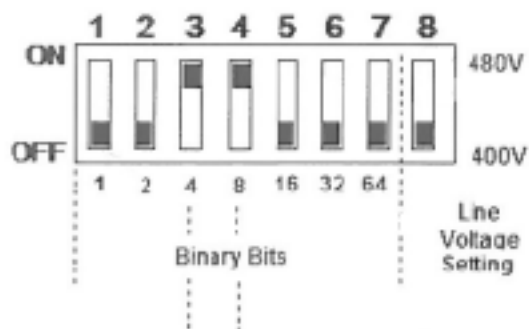

Fig. 4-79 Position of the SW3 DIP-switch
3. Check that the DIP-switch SW3-8 is set to 400V. See Fig. 4-79.